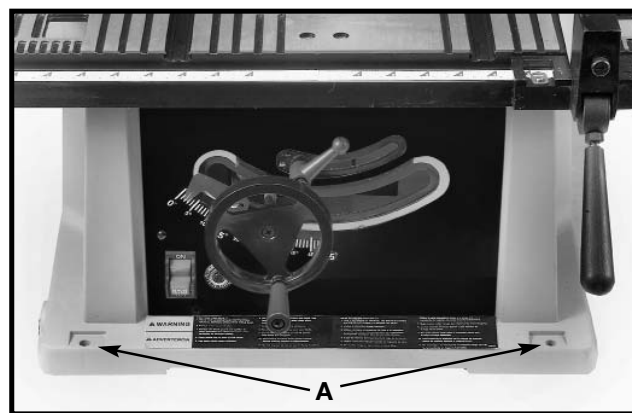

Fig. 4A
Position the four mounting holes located on the base of the saw cabinet (two of which are shown at (A) Fig. 4A) over whatever proper support you are using. Then securely fasten the saw to the supports. The saw can be secured by fastening the stand through the mounting holes with suitable hardware (not supplied).